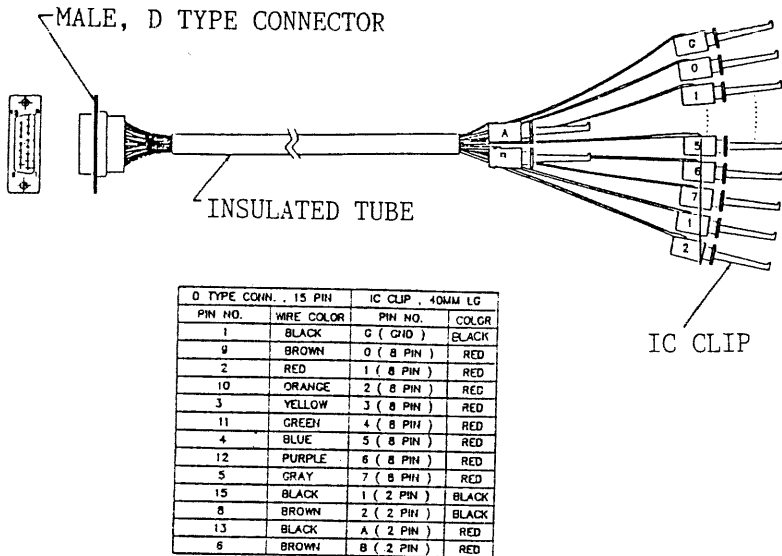

Figure 2
- 2) Connect two IC clips (marked A and B with shorter wire) to D type (male) connector pin 13 and 6 on external trace cable (see figure 2).